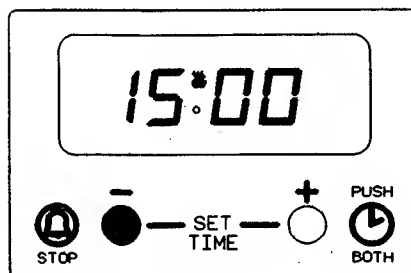

Fig. 6.7
To stop the sound and flashing, press button (1). The display will stop flashing and show the time of day, e.g. 15:00. The cooking symbol (🔥) will go out. See Fig. 6.7. If using the oven it will come on again once button (1) has been depressed. When cooking is complete remove food and turn OFF oven temperature control.